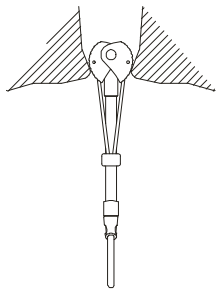

fig 2
1. Never position a Cam at the edge of a crack. (fig 2)